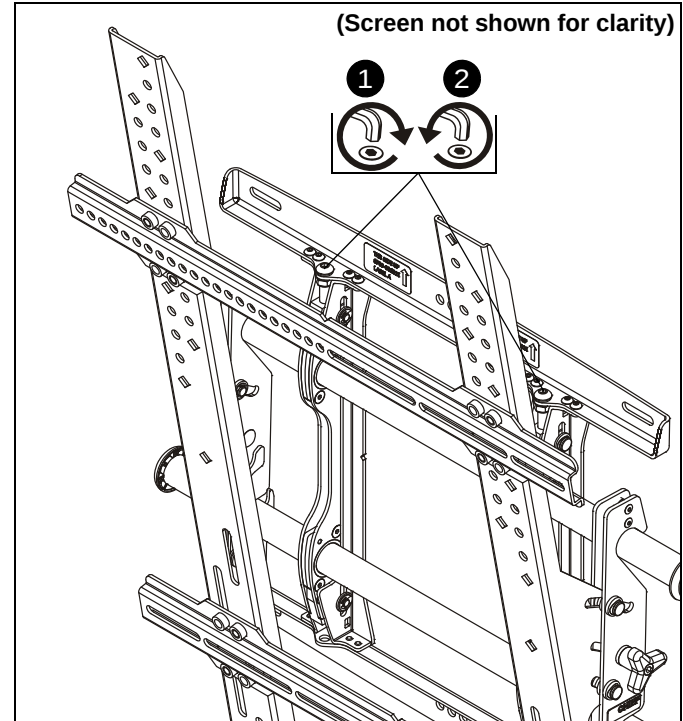

Figure 9
1. Use 3/16" hex key (F3) to turn height-adjust screws to right (tighten) to raise side of screen. (See Figure 9)
2. Use 3/16" hex key (F3) to turn height-adjust screws to left (loosen) to lower side of screen. (See Figure 9)